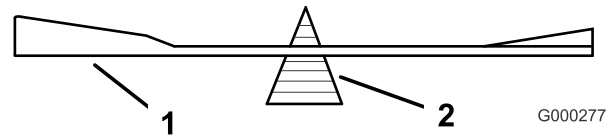

Figure 83
2. Check the balance of the blade by putting it on a blade balancer (Figure 83). If the blade stays in a horizontal position, the blade is balanced and can be used. If the blade is not balanced, file some metal off the end of the sail area only (Figure 84). Repeat this procedure until the blade is balanced.